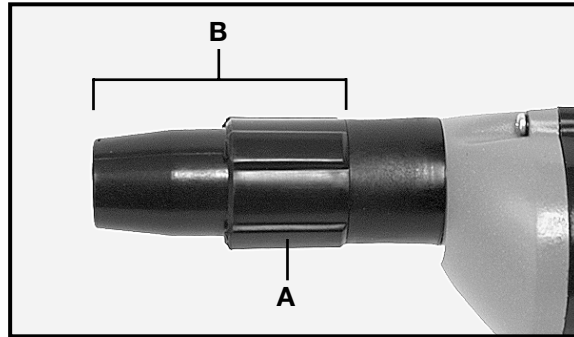

Fig. 2
2. Pull the adjusting collar (A), Fig. 2, forward, (away from the power unit), and rotate collar counterclockwise, to remove the depth stop assembly (B), Fig. 2, from the clutch housing.
1. Pull the adjusting collar (A), Fig. 2, forward, (away from power unit), and hold while performing step 2.